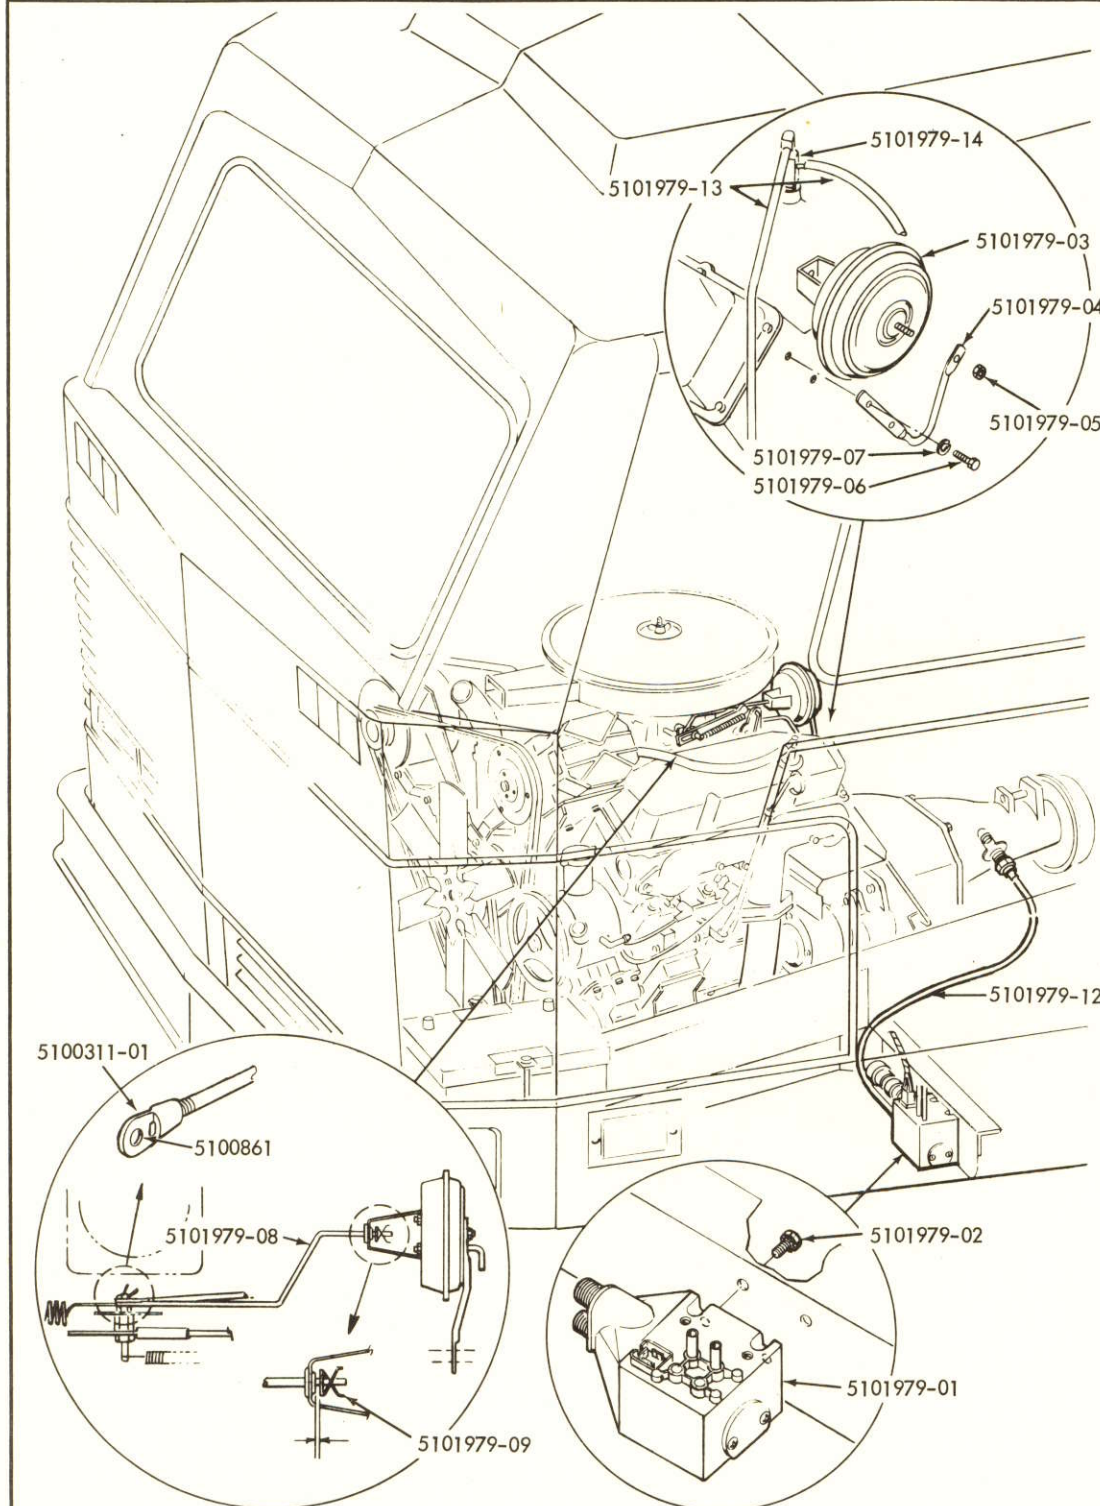

FIGURE 2. ENGINE COMPARTMENT
6. Install steering wheel (See Service Manual, Group 7). 7. At 15 pin connector under instrument panel, insert the existing white/blue wire to connect to the existing white/green wire in the connector. (See Figure 1.) 8. Connect existing blue wire (taped in harness under dash) to one of two open terminals on the stop light switch. 9. Add white ground wire (M16010), with terminal (M15031), and terminal (M15019) to make a ground from stop light switch to any convenient grounding point on coach frame. 10. Disconnect existing speedometer cable and sending units from transmission and at coach frame. 11. Install drive cable (5101979-12) to transmission and to regulator. (See Figure 2). 12. Install existing speedometer sending unit and Thermasan speed sensing switch on regulator. Discard existing cable used to drive speed sensing switch. (See Figure 2). 13. Locate regulator (5101979-01) with speedometer sending unit and Thermasan speed sensing switch attached, on frame. (See Figure 2). 14. Locate, mark, and drill two 9/32" diameter mounting holes to hold regulator to frame.	MODEL (S) AFFECTED 2900R MOTOR HOMES SERIAL 00001 TO 00531
<p style="text-align: center;">CAUTION</p> <p>Make certain you locate regulator so drive cable between transmission and regulator is not bent or kinked.</p> <p>15. Secure regulator to coach frame with two screws and washers (5101979-02). (See Figure 2).</p> <p>16. Remove air cleaner from carburetor. If coach is equipped with heavy duty air cleaner, remove air cleaner adapter from carburetor.</p> <p>17. Attach servo bracket (5101979-04) to the forward right head of the engine. Use existing holes in engine. Attach bracket with two screws (5101979-06) and washers (5101979-07).</p>	SUBJECT CRUISE CONTROL KIT #5101979-R020